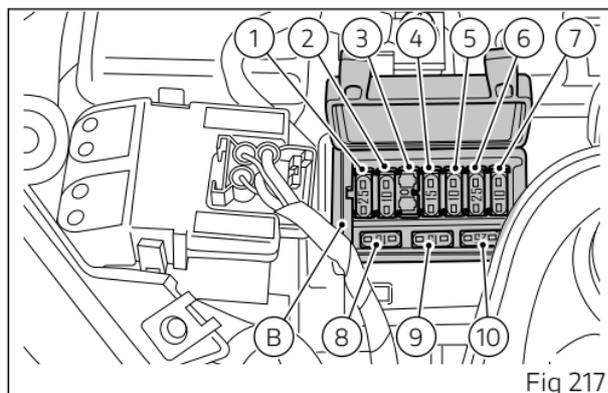

Fig 217
The main fuse (C) is located on the right side of the fuse box (B Fig 217), on solenoid starter (D). To reach it, it is necessary to remove the tank cover as described in chapter "Charging the battery" and the protection cap (E). A blown fuse can be identified by breakage of the inner filament (F).